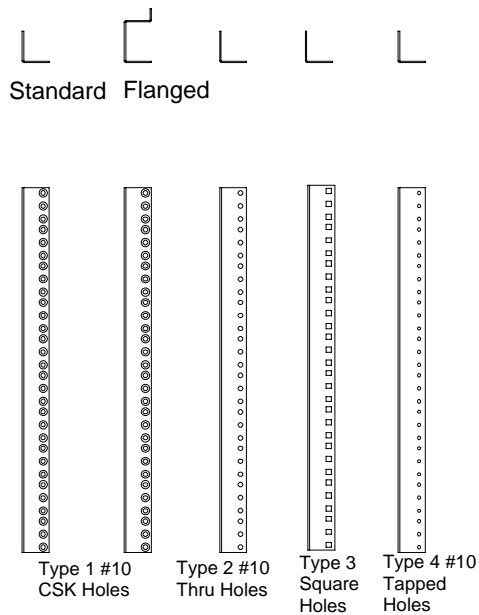

Figure 5 Selecting a rail type
2. Select your rail type. See Figure 5.